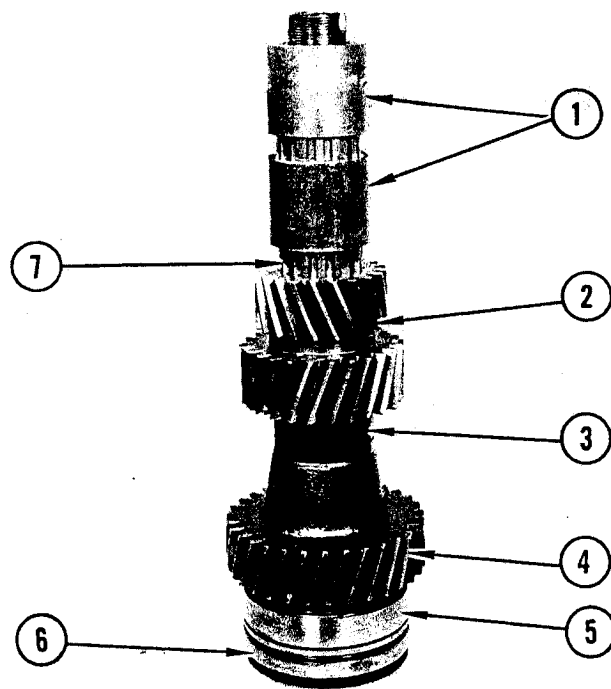

FIGURE 82. UPPER SHAFT DISASSEMBLY
Refer to Figure 82. Remove the two spacers (1), cluster gear (2), spacer (3) and high range gear (4). Using a puller, remove bearing (5). Remove seal retainer (6). Remove "O" ring from groove in outside diameter of retainer. Drive or press oil seal from retainer. Using a puller, remove seal collar from shaft (7).
Refer to Figure 82 and reverse the numerical sequence shown and the following information.